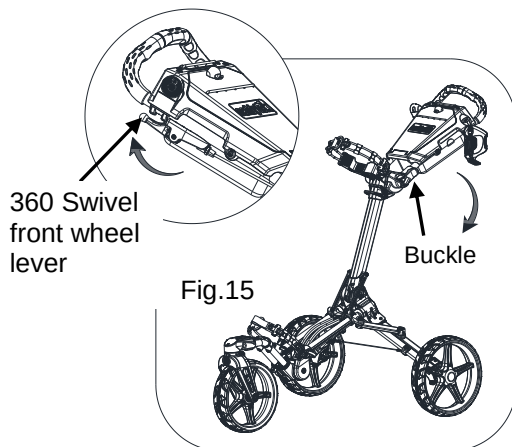
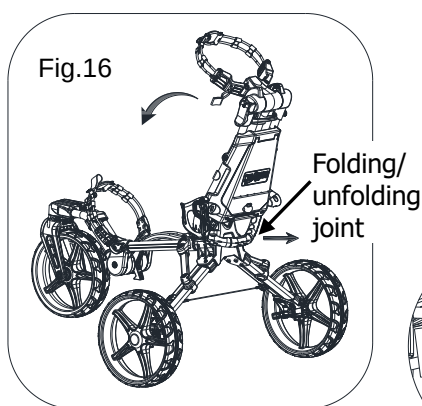
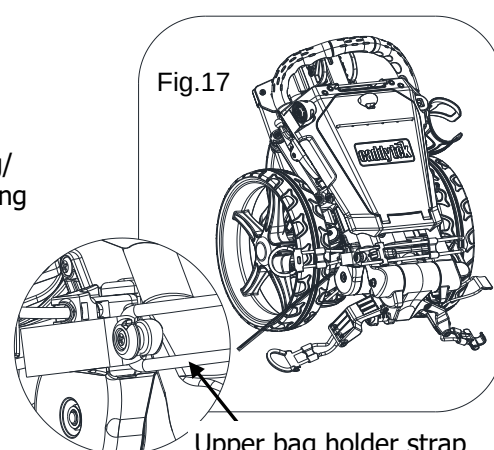

Fig.15
Fig.16
Fig.17
1. Pull the front wheel swivel lever backward to the front wheel locked position. Then release the buckle to fold the handle all the way down to the position that is flat with the upper main frame. Tighten the buckle to secure the handle in the folding position. Please refer to Fig. 15 and Fig. 16.
2. Hold the handle with one hand and hold the top of the folding/unfolding joint with the other hand. While pushing the main frame downward and pulling the handle upward, the cart will automatically fold and lock into the folded position with a crisp sound. Please refer to Fig. 16 and Fig. 17.
3. Use the upper bag holder strap to wrap around the folded cart and place it on the small hook, as shown above in Fig. 17. This will secure the folded cart, preventing it from unfolding accidentally.